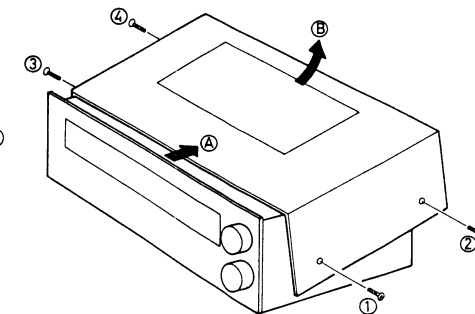

Fig. 8
2. Remove the four cabinet mounting screws (nos ①~④ screws in fig. 8).
3. Sliding it toward (A) direction and lifting it upward (B) direction as shown in fig. 8.